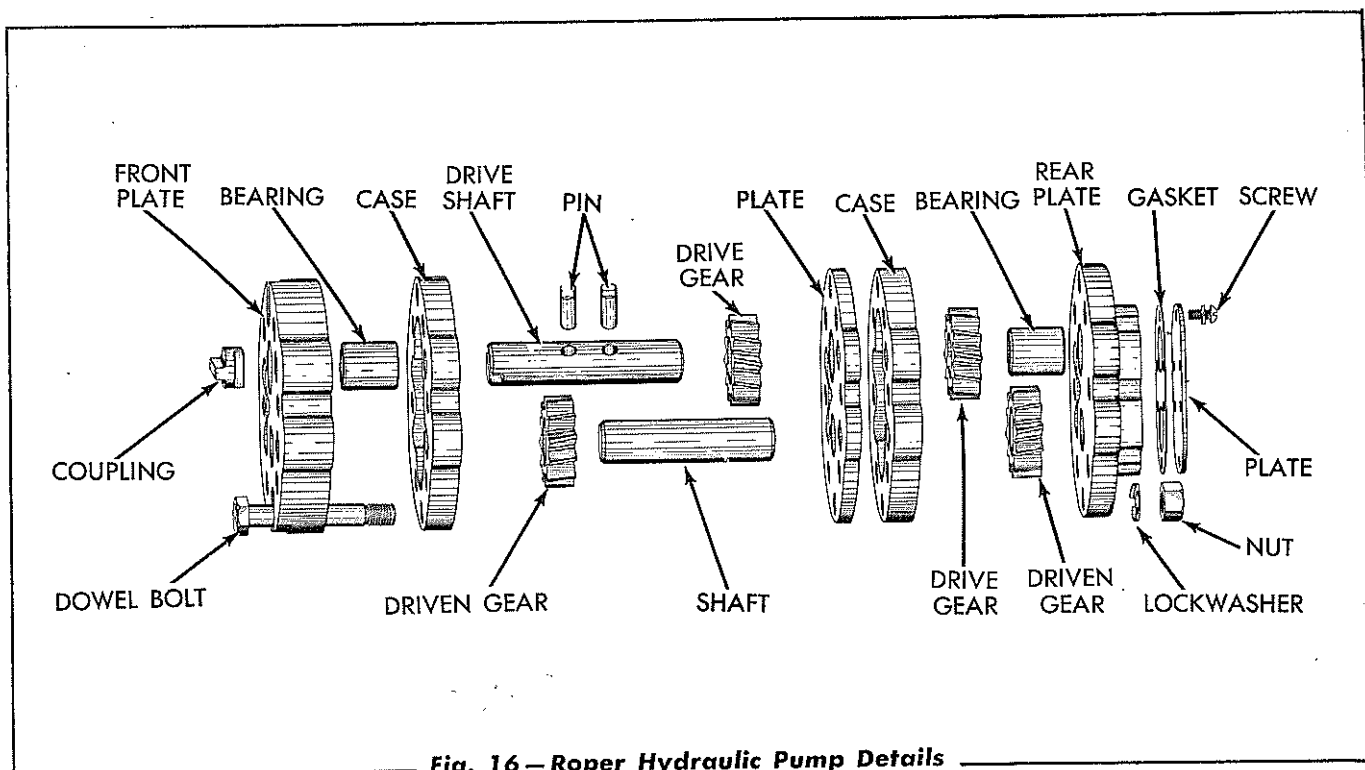

Fig. 16 — Roper Hydraulic Pump Details
7. Before disassembly of the pump, mark the plates and cases by scribing a line the entire length of the pump, or use a center punch to index the cases and the plates to facilitate reassembly of the pump (refer to Figs. 16 and 17).
8. Remove the two (2) dowel bolt nuts from the rear of the pump, then remove the rear plate using a soft hammer to tap the plate off of the dowel bolts.
Refer to Figs 16 and 17 showing the parts in relative position.